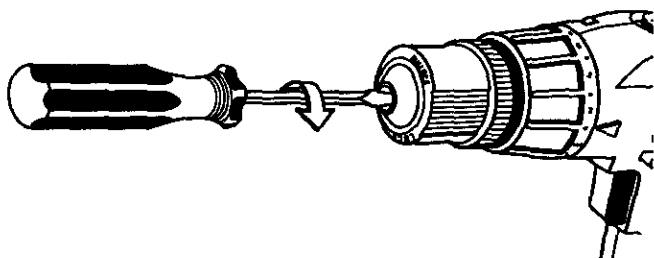

Fig. 15
- Open chuck jaws and remove allen wrench. Remove the chuck screw by turning it in a clockwise direction. See Figure 15. **Note:** The screw has left hand threads.